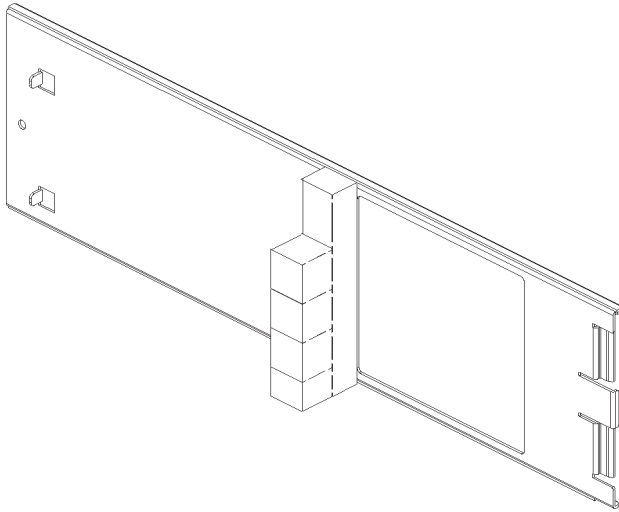

Figure 5-38. Remove Block from PCI Assembly Cover
8. (J2240 Only) Before installing cover, if you installed an EISA, or graphics board that is taller than a PCI card remove the small break-off block from the cover that corresponds to that slot. Refer to Figure 5-38.